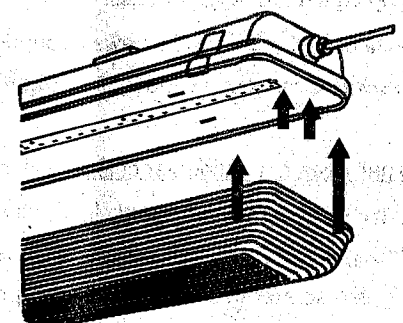

Figure 11
14. To install lens- position lens onto fixture housing. See Fig. 11. Edge of lens should be positioned in gasket area on the perimeter of housing. Slide latches over edge of lens. When latch is fully engaged it will produce a "snap" sound. Repeat for all remaining latches.